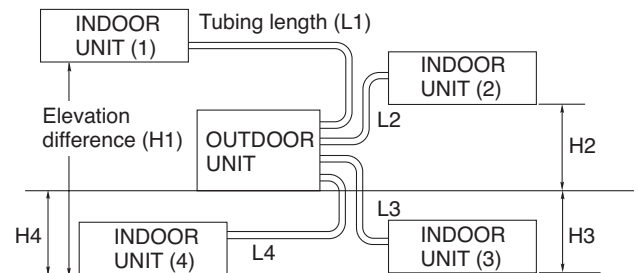

Fig. 2
- install the unit within the maximum elevation difference (H1, H2, H3, H4) above or below the outdoor unit and within a total tubing length (L1+L2+L3, L1+L2+L3+L4) from the outdoor unit as detailed in Table 3 and Fig. 2.